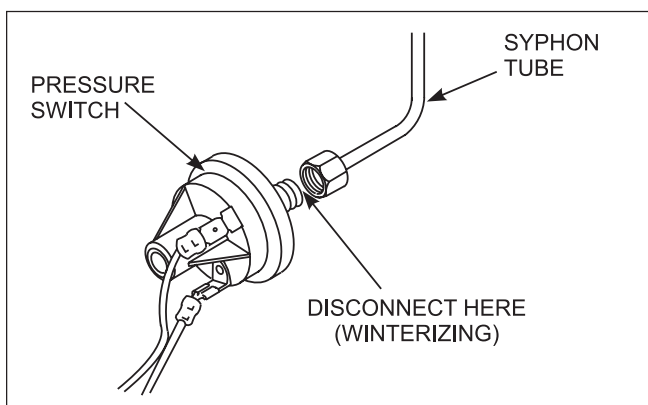

Figure 20. Pressure switch copper tubing.
8. Disconnect the pressure switch from the siphon tube (copper tubing) (see Figure 20).
1. Attach the copper tubing to the pressure switch (see Figure 20).